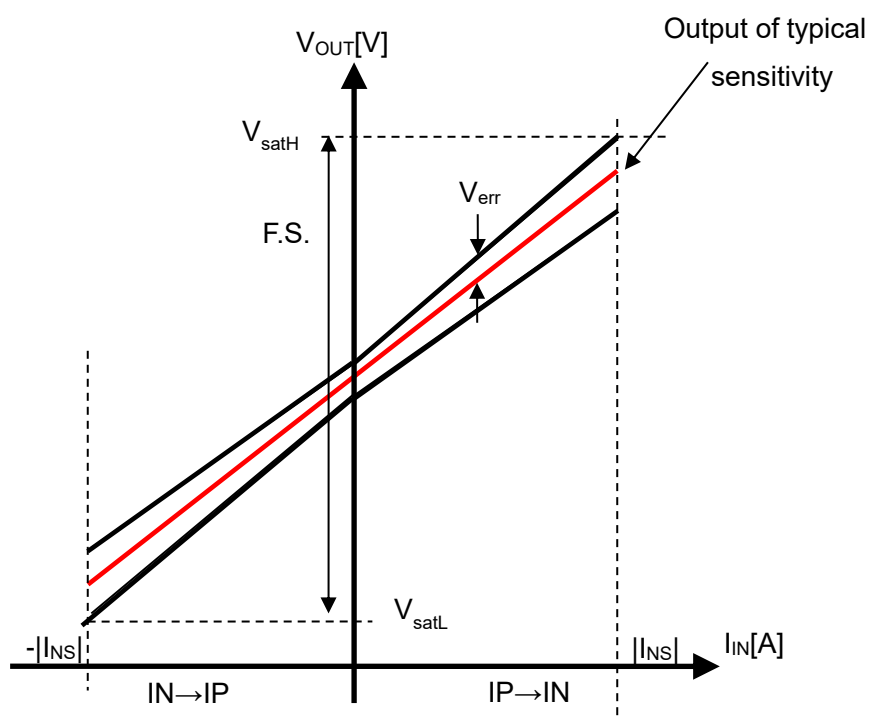

Figure 4. Total Accuracy of CZ-3A03
**10.2. Total Accuracy  $E_{total}$  [%F.S.] is defined as below (See Figure 4.)**